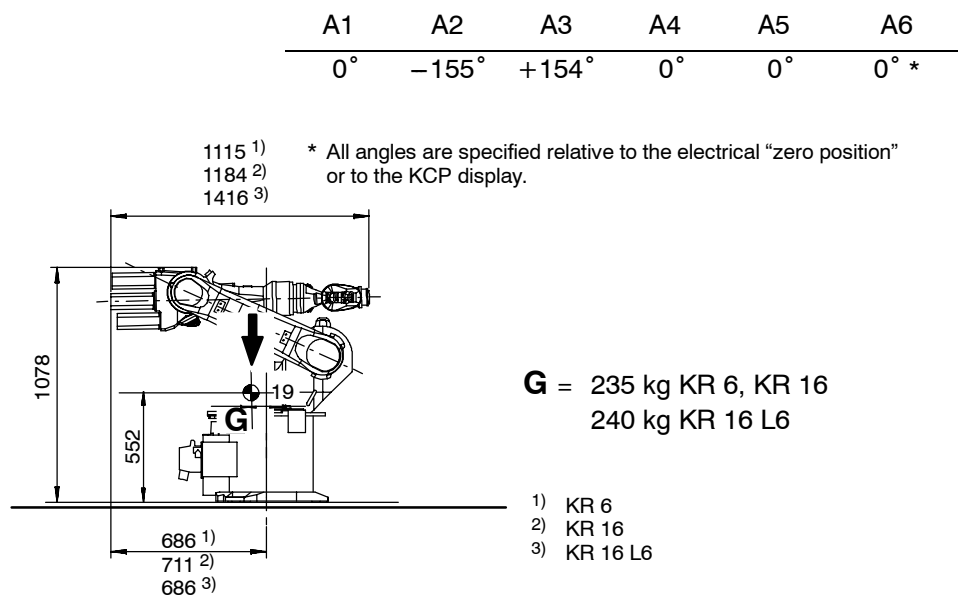

Fig. 43 Transport position for floor-mounted manipulators
The dimensions for the individual robot variants may be noted from Fig. 43. The position of the center of mass and the weight vary little between the individual robot variants.
(2) Put manipulator into operation and move it into transport position (Fig. 43).
The transport position corresponds to that for floor-mounted or ceiling-mounted manipulators (Fig. 43).
- (2) Put manipulator into operation and move it into transport position (Fig. 43).